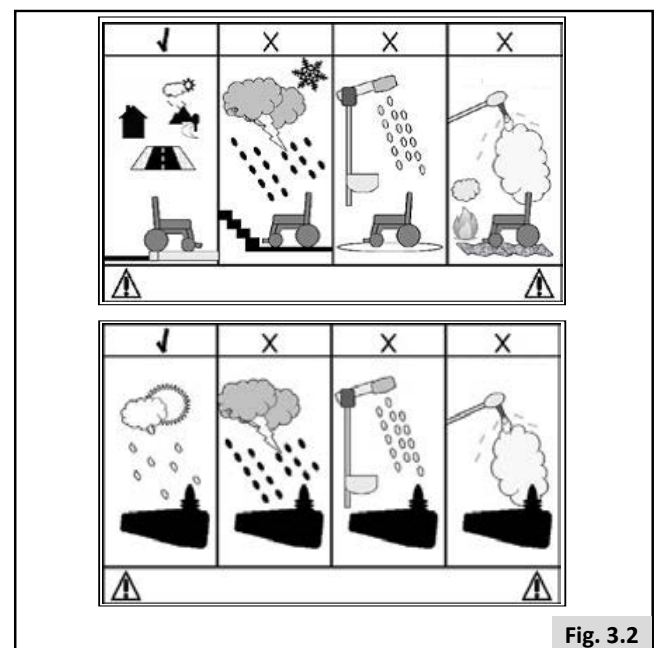

Fig. 3.2
3.2 Area of application: The user environment, Fig 3.2